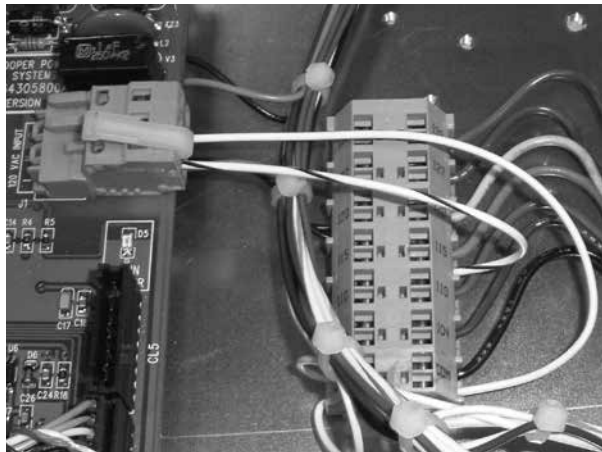

Figure 18. Connecting power to module
- A. When installing the communications board in a Cooper control box the RCT terminal board should be used to supply power. See Figure 18.